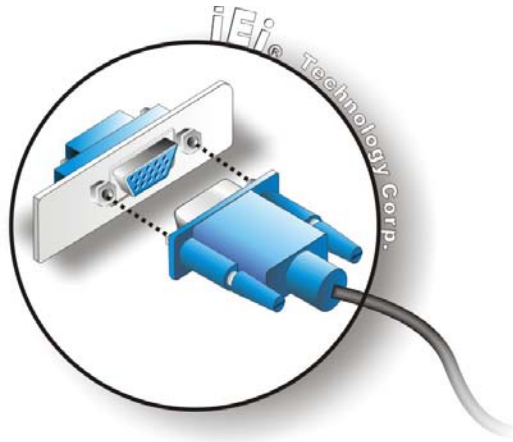

Figure 2-33: VGA Connector
Step 3: **Insert the VGA connector** Once the connectors are properly aligned with the insert the male connector from the VGA screen into the female connector on the AFL-W19A/17D/W15A-N270. See Figure 2-33.